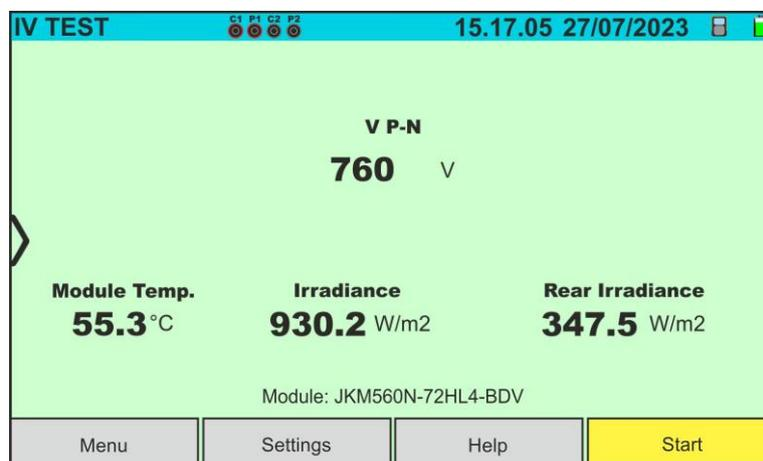

Fig. 36: Initial I-V curve measurement screen on Bifacial modules
5. In the case of **Bifacial** modules, the screen Fig. 36 is present on the display. The following parameters are shown: